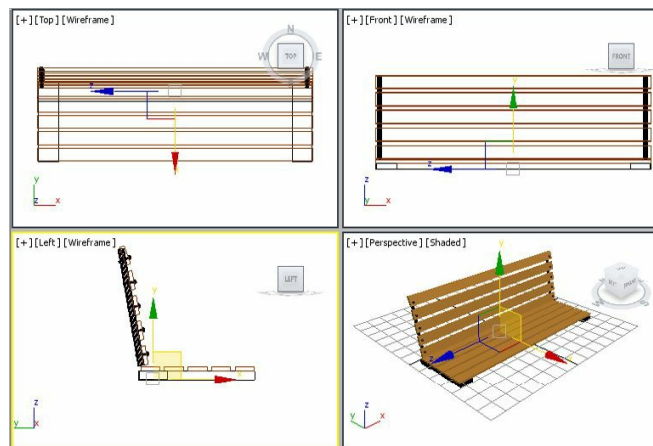

Figure 2-85 Alignment of leg support003 with horizontal seat support in viewports
10. Choose the **Select and Move** tool and align *leg support003* with *horizontal seat support* in all viewports, as shown in Figure 2-85.